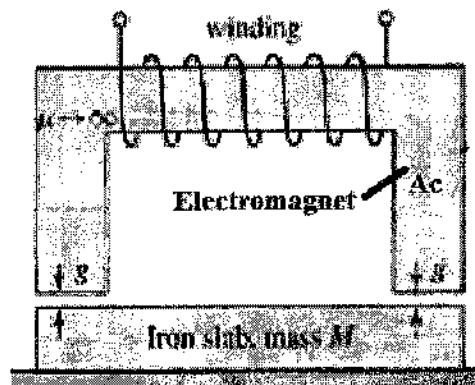

Fig.3 Magnetic circuit of Q_3 (c)
c) As shown in Fig. 3, an N-turn electromagnet is used to lift a slab of iron of mass M . The surface roughness of the iron is such that when the iron and the electromagnet are in contact, there is a minimum air gap of $g_{min}=0.18$ mm in each leg. The electromagnet cross-sectional area $A_c=32\text{cm}^2$.